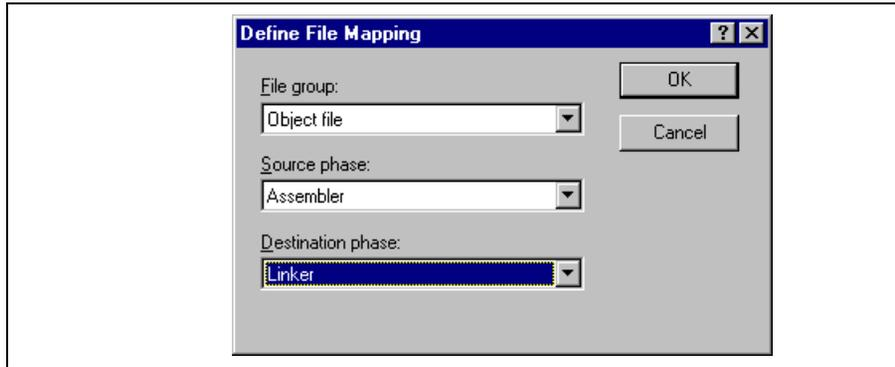

Figure 3.17: Define File Mapping Dialog
2. Click “Modify...” button. The “Define File Mapping” dialog will be invoked (figure 3.17).